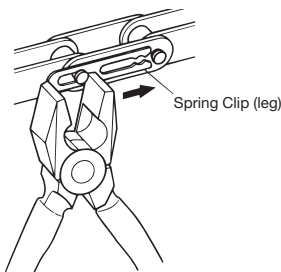

Figure 19: Use a Pair of Pliers to Secure Spring Clip
- 2) Pay careful attention to ensure that the fingers of the spring clip are not spread too wide. If the spring clip does not fit securely, it could become detached without warning, leading to an accident (Figures 19 and 20).